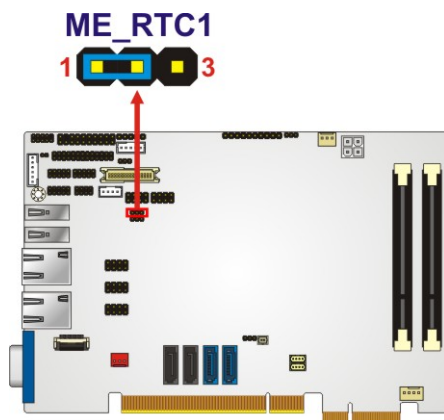

Figure 4-13: TPM Setting Jumper Location
- Jumper Location:** See Figure 4-13